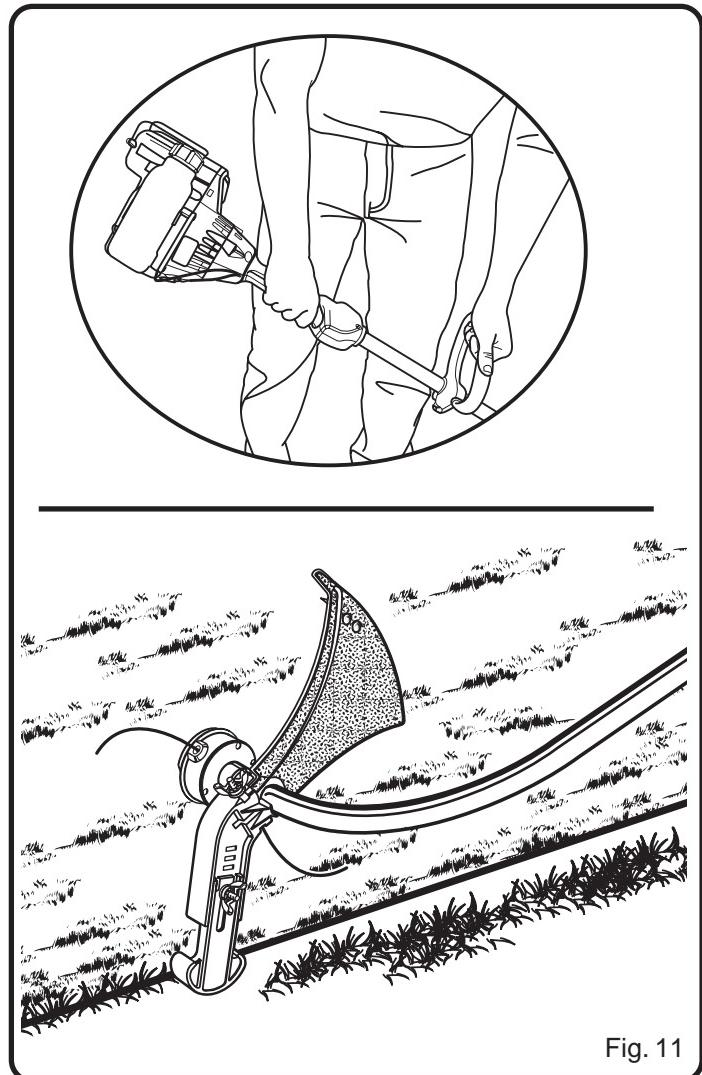

Fig. 11
- Be extremely careful when tilting the trimmer to use as an edger. The silencer and the exhaust from the silencer get very hot during operation. Keep the silencer away from all body parts. See Figure 11.